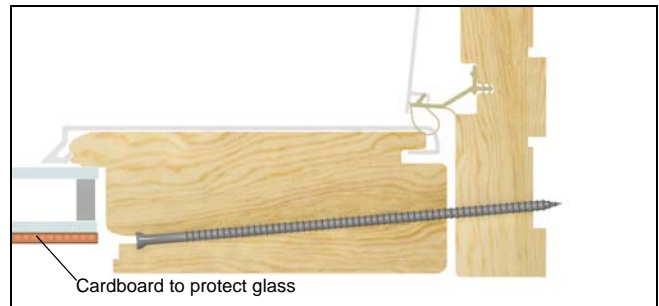

Figure 15
12. Using the Torx® bit, secure the panel to the frame using #9 x 5" Torx trim head screws. Be sure to countersink the screw heads so they are below the connecting barb kerf. See figure 15.